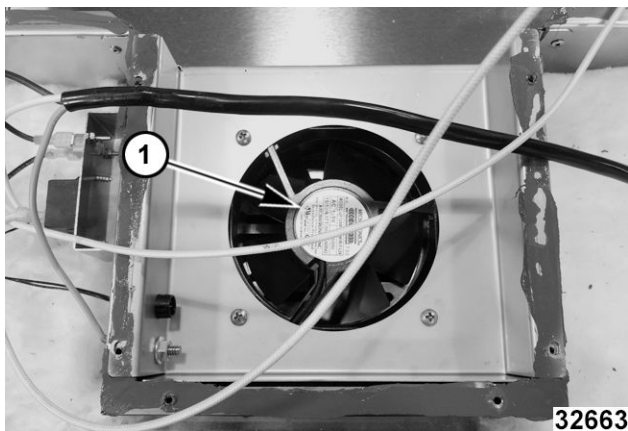

Fig. 8
7. Install fan with label (1, Fig. 8) up.